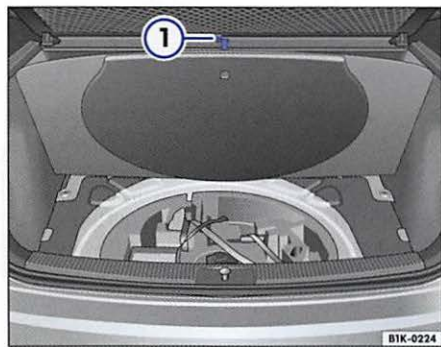

Fig. 176 In the luggage compartment: Floor covering raised and ① secured.
- Lift the floor covering and hang it on the hook beneath the luggage compartment cover ⇒ fig. 176 ①.